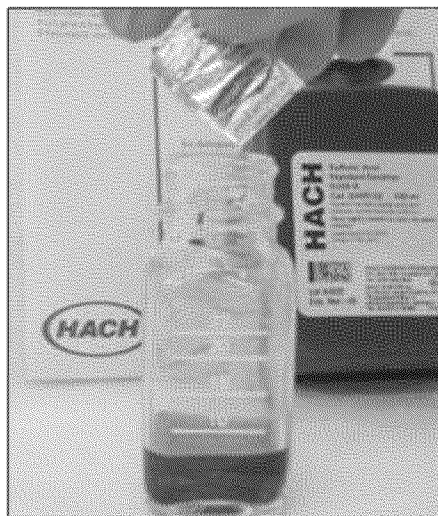

Figure 9. Adding Bromocresol Green – Methyl Red Indicator to a Mixing Bottle.
- i Gently swirl the contents of the mixing bottle. The mixture should turn a green or green-blue color as shown in Figure 9.